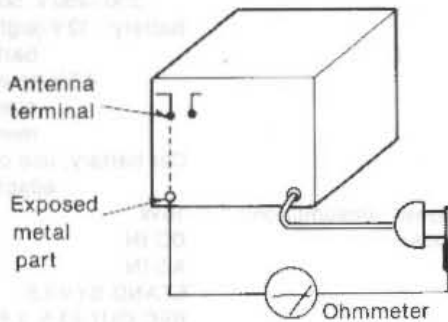
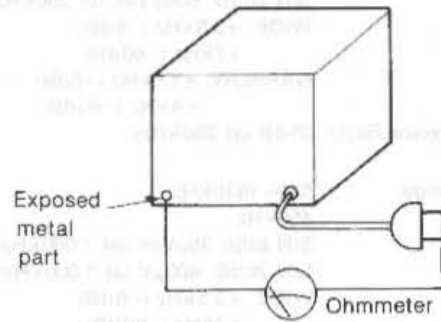

Fig. 1
Fig. 2
3. Measure the resistance value with ohmmeter between the jumpered AC plug and each exposed metal cabinet part, such as screwheads, antenna, control shafts, handle brackets, etc. Equipment with antenna terminals should read between $3M\Omega$ and $5.2M\Omega$ to all exposed parts*. (Fig. 1) Equipment without antenna terminals should read approximately infinity to all exposed parts. (Fig. 2)